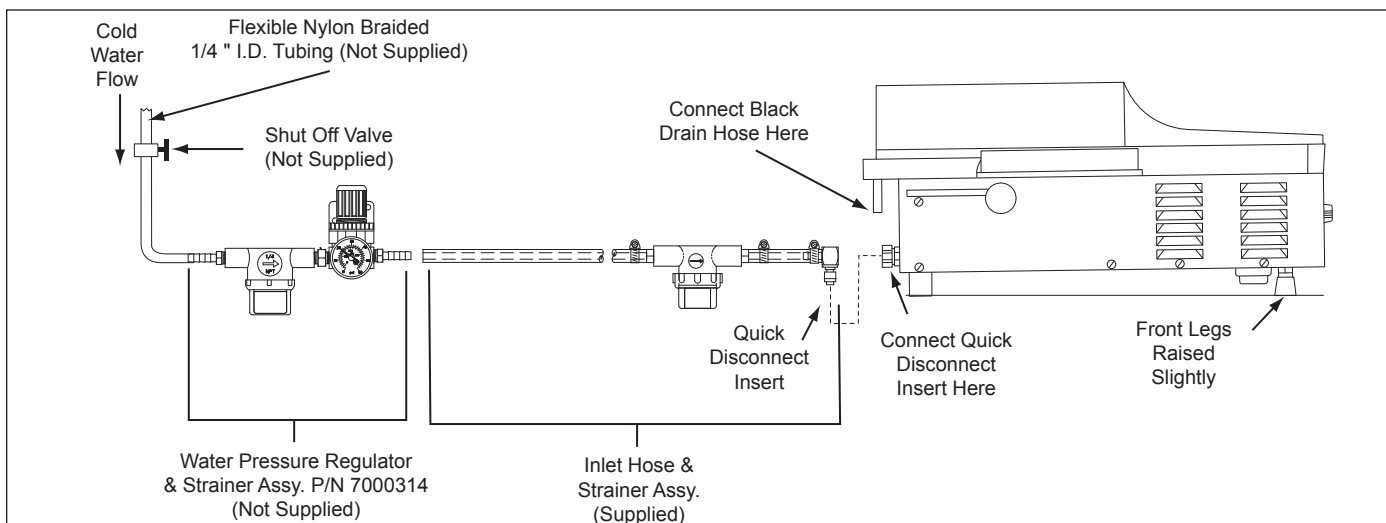

Figure 2. Connecting Water Supply
- Raise the front legs so the unit is tilted slightly to the rear (Figure 2).
This unit requires a direct water hookup. A Water Inlet Hose and Strainer Assembly (Figure 2) are supplied.
1. Turn off the Water Valve (not supplied) that provides water to the unit (Figure 2).
2. Connect the 1/4" I.D. flexible tubing to the outlet side of the Water Pressure Regulator and secure with the Worm Clamp (Figure 2).
NOTE: A Water Pressure Regulator (P/N 7000314) must first be installed (Figure 2). Failure to do so will result in poor steaming and possible flooding.
7. Push the Quick Disconnect Insert into the fitting at the rear of the unit until it clicks (Figure 2).
8. Connect the Black Drain Hose to the Drip Tray (Figure 2). Place the other end of the hose in a drain or collection pan.